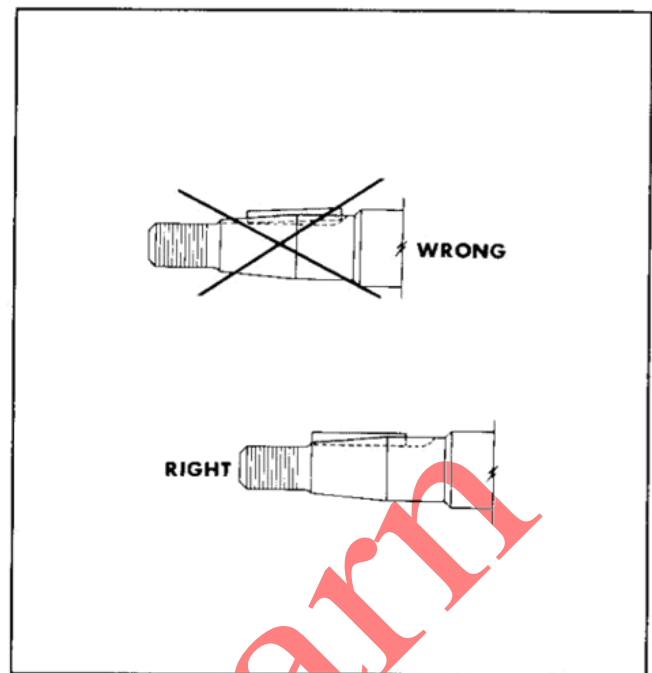

Figure 12-43. Installing A Square Flywheel Key.
1. Position key properly in keyway as shown in Figure 12-43 and carefully guide key slot in flywheel hub over the key while installing to avoid pushing the key inward.